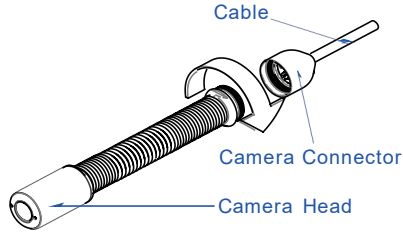

Figure 9. Install Camera Head
4. Install Camera Head (Figure 9.)